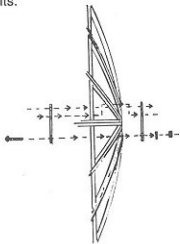

Figure 4.
STEP 4 You may stand the assembled reflector on edge for easy access to the center. Attach the center hub plates to the antenna by inserting four $\frac{5}{16}$ "x2" carriage bolts through the front plate, between the ribs, and through the rear plate on the back side of the reflector. Be sure to use $\frac{5}{16}$ " washers on the rear hub plate. See Figure 4. **SECURELY TIGHTEN THE CARRIAGE BOLTS WITH A WRENCH.**